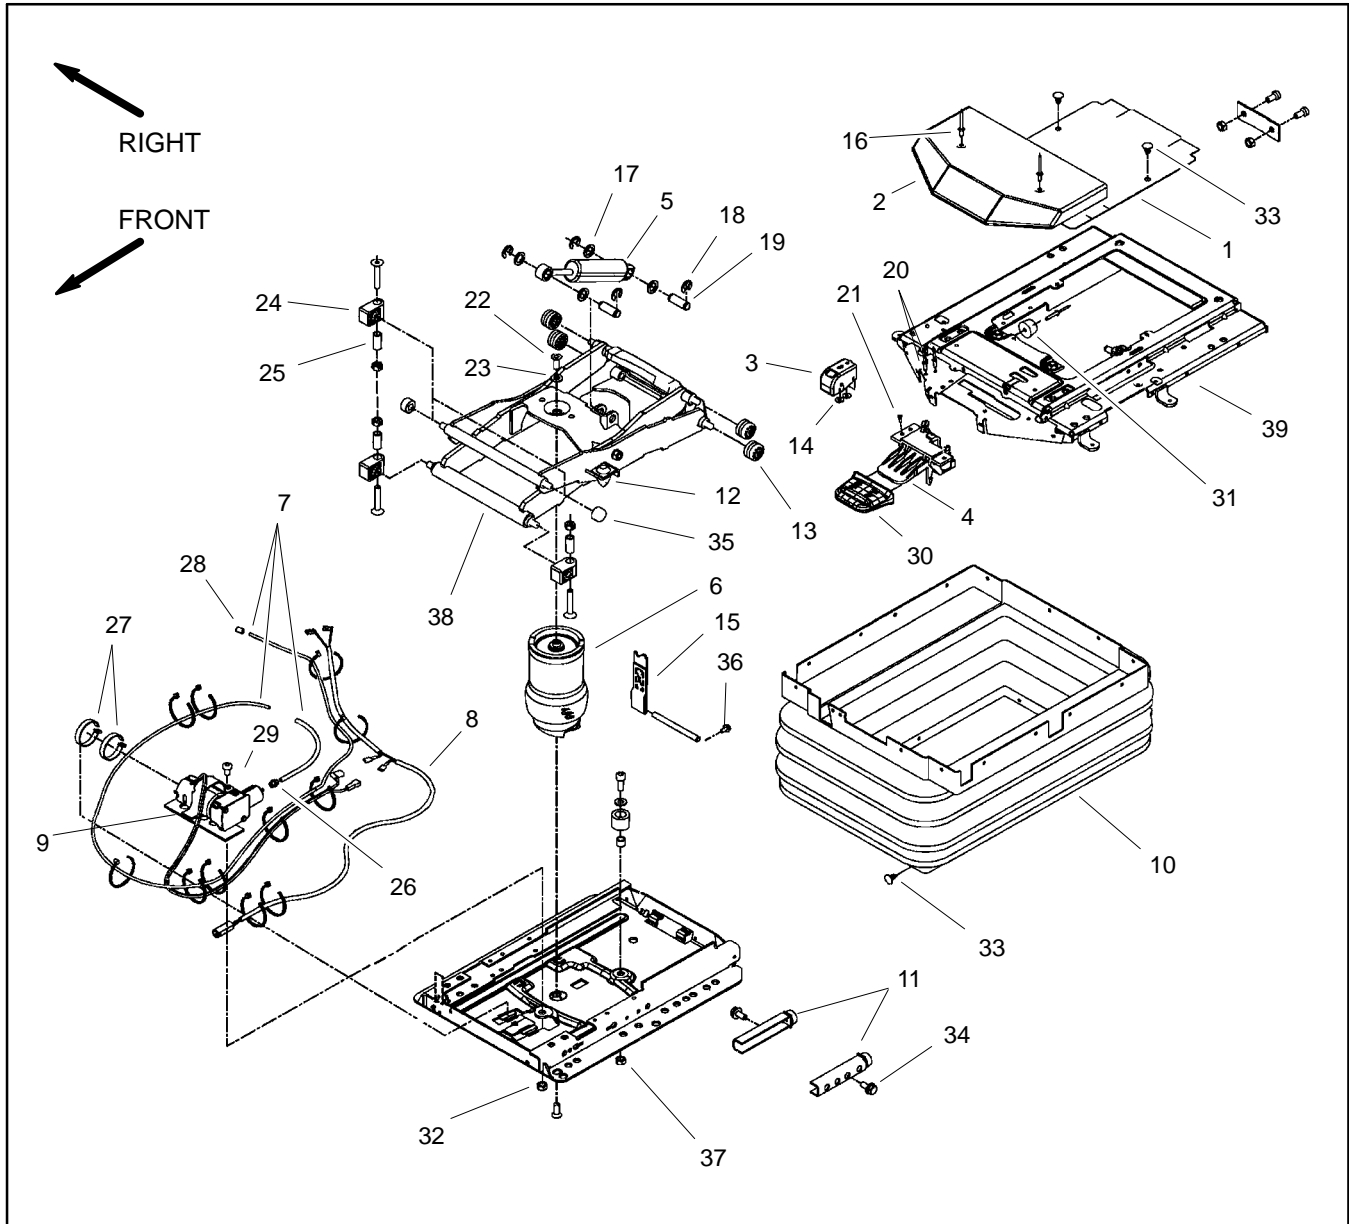

Figure 9
Disassembly (Fig. 9)
2. If the air spring assembly (item 6) or base plate (item 37) requires removal, remove seat suspension from seat platform (see Operator Seat Removal in this section).
3. Remove seat suspension components as needed using Figure 9 as a guide.
Assembly (Fig. 9)
1. Install all removed seat suspension components using Figure 9 as a guide.